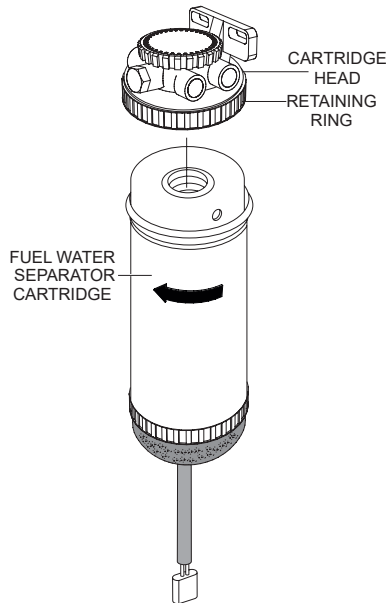

**Figure 67. Sediment Bowl**
1. Remove the sediment bowl from the fuel water separator cartridge as shown in Figure 67.